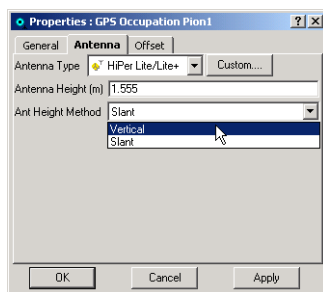

Figure D-30. Edit Antenna Properties
2. Click the *Antenna* tab and enter the new antenna height value (for example, 1.555m). Change the method of measurement for antenna height from slant to vertical (Figure D-30).